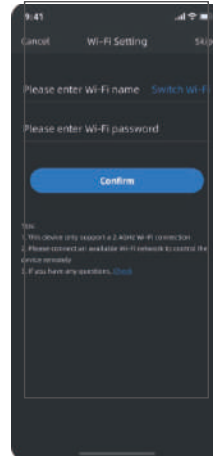

Figure 4
- 4) Figure 4: The Bluetooth **"Connection successful"** is displayed, and after 2 seconds, the **"Wi-Fi settings"** page is entered.